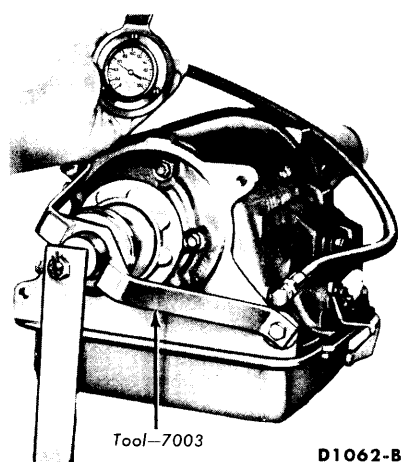

FIG. 12—Bench Testing Tool Installation—Typical
5. Install the pressure gauge (77820 or T57L-77820-A) as shown in Fig. 12.